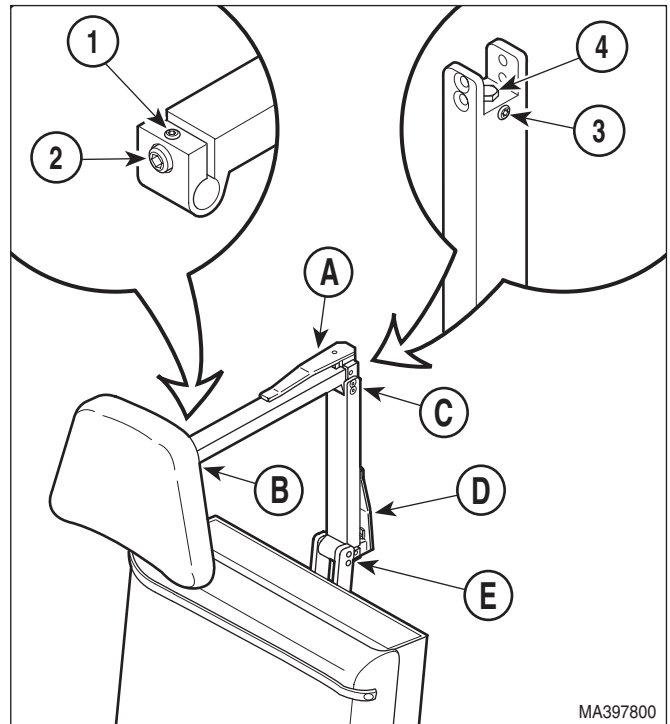

Figure 4-30. Headrest Adjustment
- (1) Unlock upper lock handle (A, Figure 4-30).
- (2) Loosen setscrew (1, Figure 4-30).
- (3) Tighten adjusting screw (2) slightly; then lock upper lock handle (A). Repeat this step until axis 1 (B) and axis 2 (C) have the strongest possible holding power, but operation of upper lock handle is not too difficult.
- (4) Tighten setscrew (1).